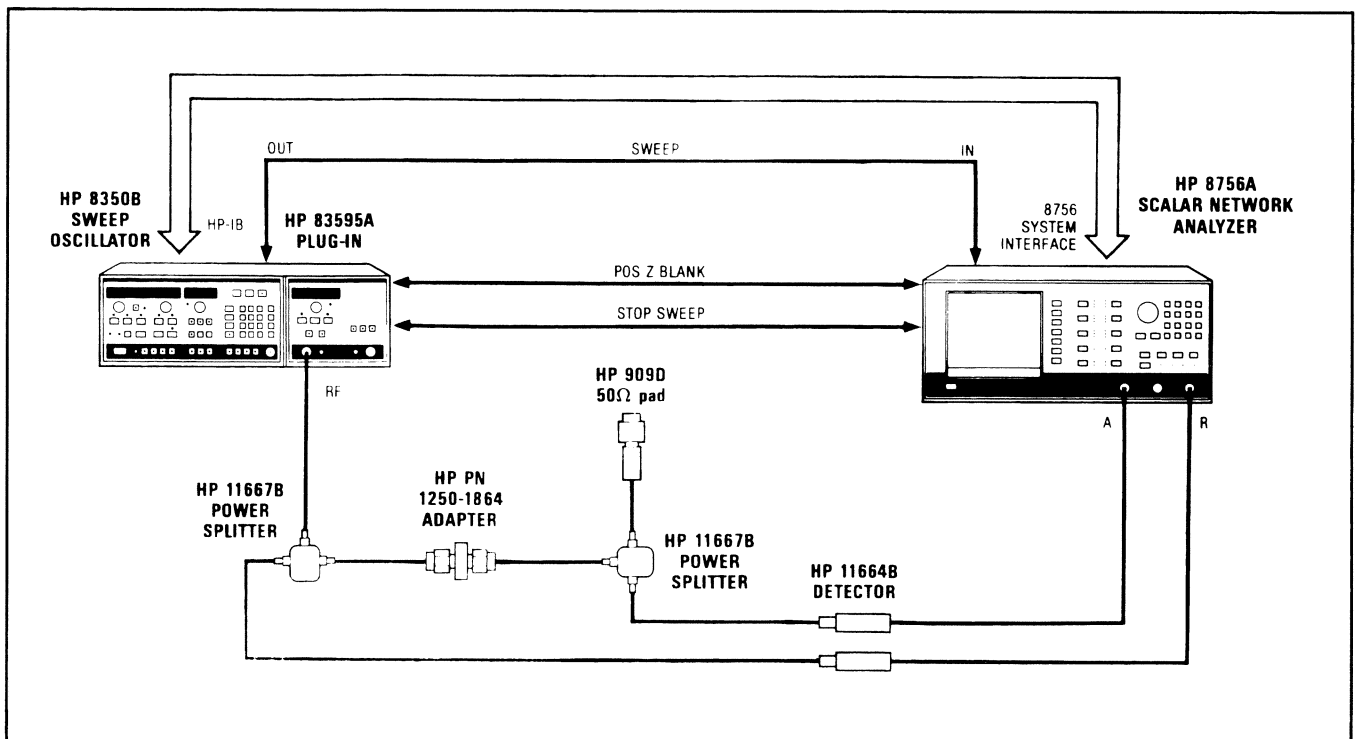

Figure 4. Output Tracking Test Setup
1. Connect equipment as show in Figure 4. Press [**PRESET**] on the HP 8756A to preset both the HP 8756A and the HP 8350B (this will also turn the HP 8350B [**MOD**] on, and set the sweep rate to 200 ms). Allow 30 minutes warm-up.